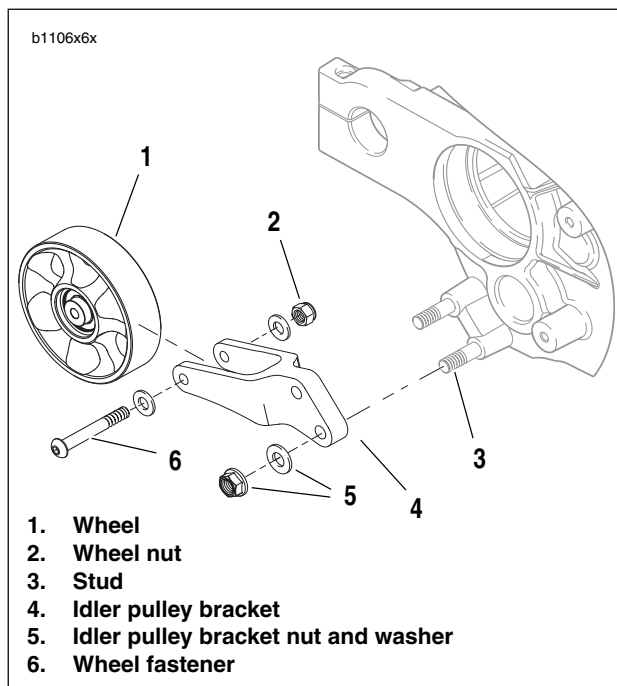

Figure 1-43. Idler Pulley Assembly
5. See Figure 1-43. Remove idler pulley bracket nuts and washers (5) from studs (3).
6. Slide idler pulley bracket (4) off studs (3).
7. Inspect pulley by spinning wheel (1) and checking for wheel bearing wear.
8. If pulley wheel needs replacement, remove fastener (6), washer and nut (2) from idler pulley bracket (4) and discard wheel. Replace with **new** pulley wheel (1).
1. See Figure 1-43. Install new or existing pulley wheel (1), if removed, and tighten washer and nut (2) wheel fastener (6) to 20-23 ft-lbs (27.1-31.2 Nm).
2. Slide idler pulley bracket (4), washer and nuts (5) on to studs (3) and tighten to 33-35 ft-lbs (45-47 Nm).